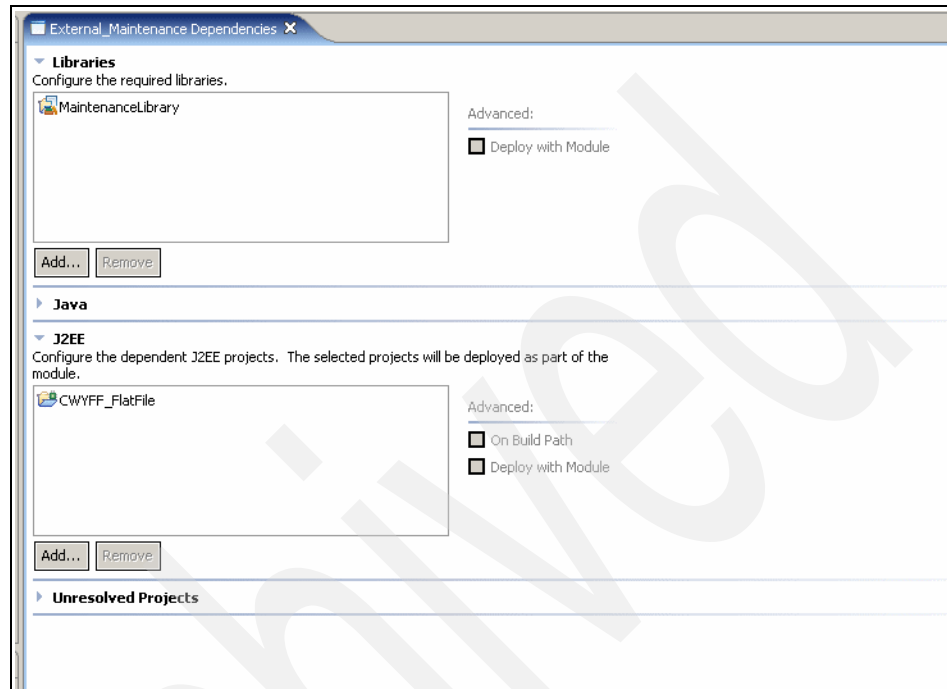

Figure 2-12 Dependencies
13. Click **Add Libraries** and select **MaintenanceLibrary** (Figure 2-12).
15. We also see here in the J2EE pane (see Figure 2-12 on page 26) that the project for the Flat File connector itself will be deployed with our application. This is known as an imbedded deployment.